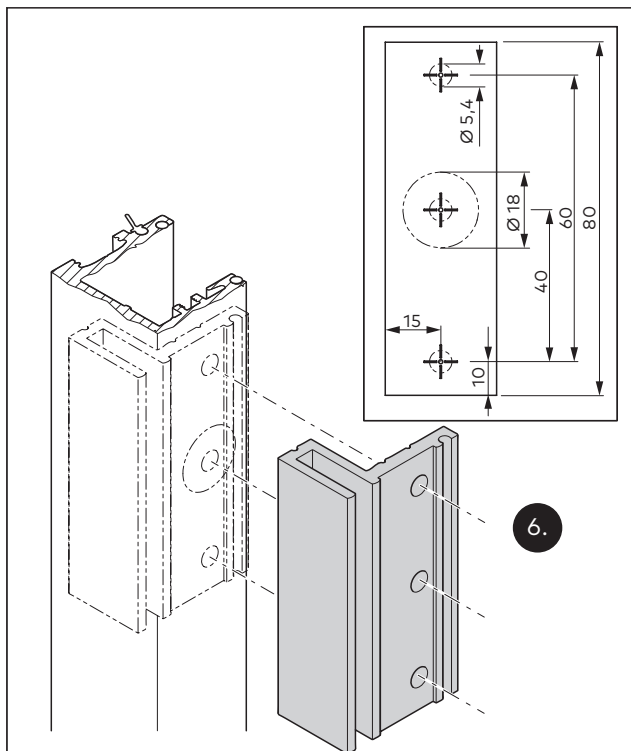

Abb. 10 Mark the required drill holes on a cover profile for the door frame with the drilling template.
6. If there are no pre-drilled holes for the electromodule, mark the required drill holes on a cover profile for the door frame with the drilling template (Abb. 10).